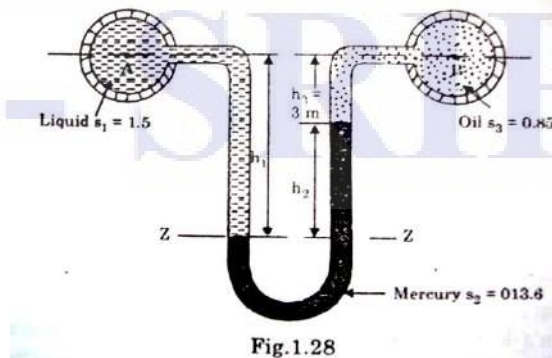

Fig.1.28
- 9 A Differential manometer connected to two pipes A & B as shown in fig 1.28 . The pipe A contains liquid of specific gravity 1.5 and the pipe B contains liquid of specific gravity 0.85 and the difference in pressure between the two pipes is 10 m of water. Find the difference in mercury level